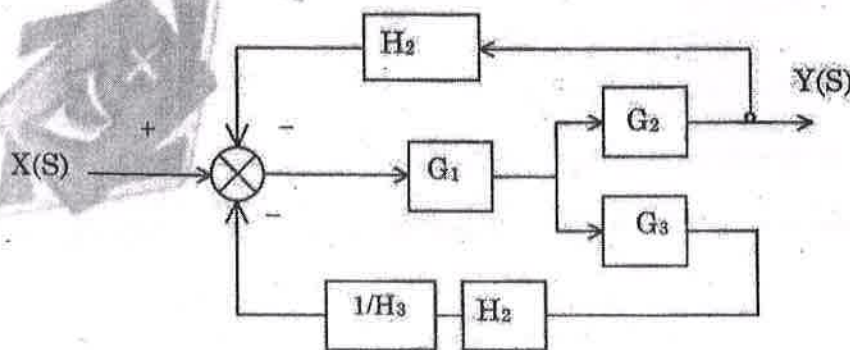

Fig. 3
- (b) Find the transfer function of the system shown in fig. 3 using block diagram reduction technique and signal flow graph technique.